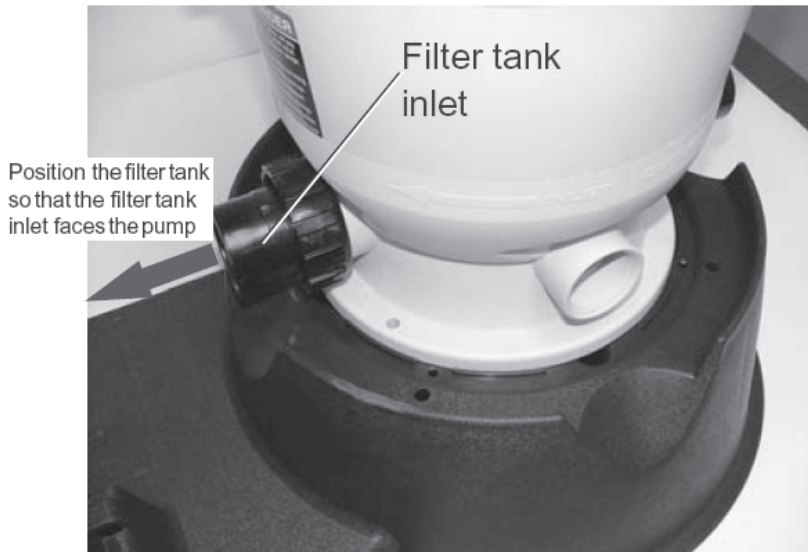

Figure 2.
- E. Position the filter tank so that the filter tank inlet faces the pump end of the system base. See Figure 2.